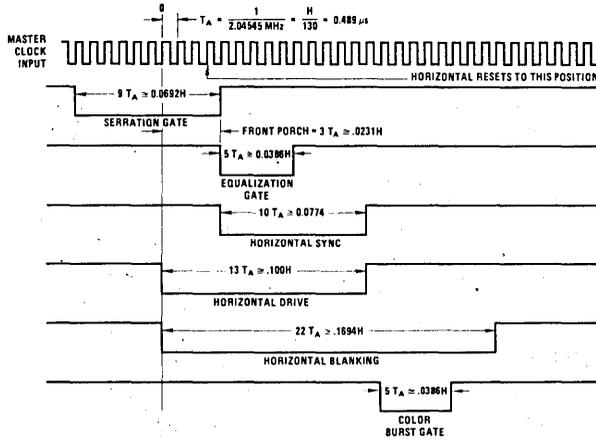

FIGURE 2. Horizontal Timing Master Clock = 2.04545 MHz
*Horizontal Reset* occurs for Logic "0," this resets the horizontal counter to a state shown in Figures 2 and 3.
serration pulse (eleven 0.5H time intervals from leading edge of *Vertical Blanking*). Refer to the reset table above. The horizontal divider will always be reset to a position which is 8 input clock pulses from the leading edge of the serration gate in the horizontal timing scheme (Figure 2 and 3). The generator is reset to the odd field (field one). The *Field Index* output pulse occurs once each odd field at the leading edge of *Vertical Blanking*. It can be used to reset, or "gen-lock," similar sync generator chips by connecting it to their *Vertical* and *Horizontal Reset* inputs.